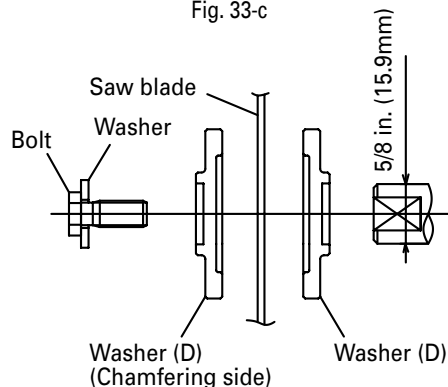

Fig. 33-d
- (7) Press in the spindle lock and tighten the bolt by turning it to the left by standard accessory's wrench (10mm box wrench) as indicated in Fig. 33-c.